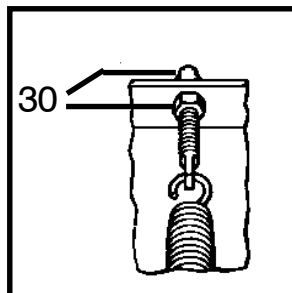

Figure 1
- A. Assemble Pivot Assembly (22) to Push Frame (23) using Pivot Pin (29) and Cotter Pin (34). **Note: Liberally coat Pivot Pin with a chassis grease/anti-seize lubricant.**
- B. Assemble Eye Bolts W/Locknut (30) to Trip Springs (24). Install four Trip Springs (24) onto Pivot Assembly (22).
- C. Guide Eyebolts into Push Frame (23) Attach Eye Bolts (30) to Push Frame (23),
- D. Make certain each Eye Bolt (30) is in a vertical position as shown in figure 1 so that the Eye Bolt (30) and Trip Springs hinge properly when moldboard trips.
- F. Assemble L.H. & R.H. Wings (1 & 2) to Pivot Assembly using Hinge Pin (25), 5/8 Flatwasher (40), 7/16 Washer (38), 7/16 Lockwasher (41) and 7/16-14 x 1-1/4" Bolt (42).
- H. Install Wing return Springs (26) using Eyebolts (30) and adjust springs to proper tension.